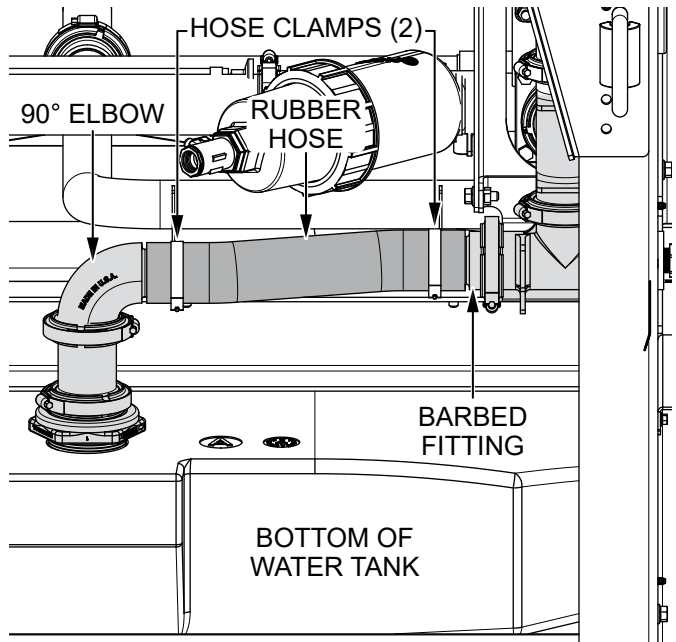

Figure 4. Remove Rubber Hose And Clamps
2. Loosen the **two hose clamps** (Figure 4) securing the **rubber hose** to the **90-degree elbow** and the **barbed fitting**. Remove and discard the rubber hose and the hose clamps.